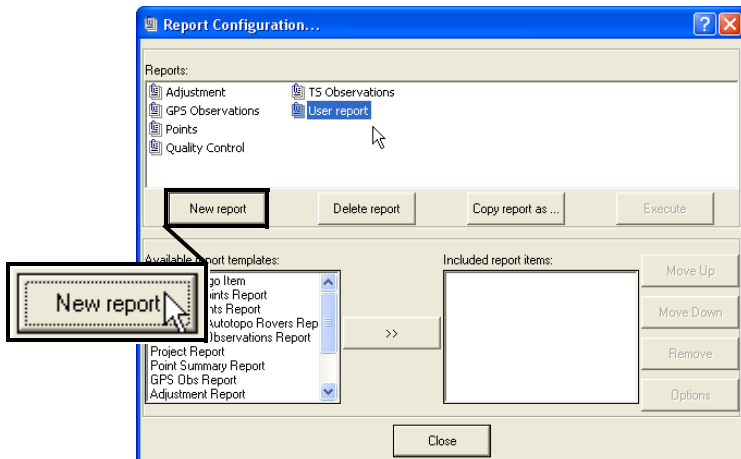

Figure 7-29. Create New Report
1. On the *Report Configuration* dialog box, click **New report**. A report called “User report” appears in the *Reports* window (Figure 7-29).